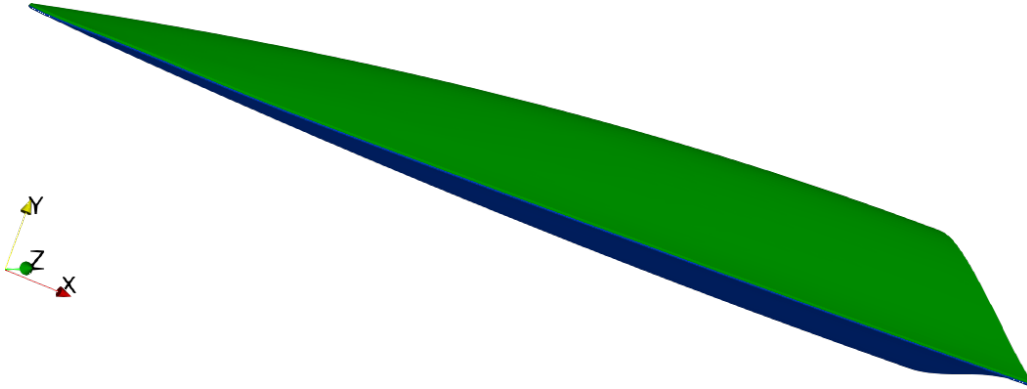

Figure 1: Example of a hypersonic lifting body. Top surface in green. Bottom surface in blue.
Compute the lift-to-drag ratio (L/D) of a hypersonic lifting body flying through air using modified Newtonian theory. An example geometry is shown in Figure 1; the top and bottom surfaces are shaded separately. Only a half geometry is given. Assume symmetry and that the vehicle flies with zero angle of yaw. Make and state assumptions about the gas properties of the air for your analysis.
- The axes are oriented as per the definition in Anderson's textbook with: x running along the vehicle; y pointing upwards; and z out of the page (as shown in Figure 1).